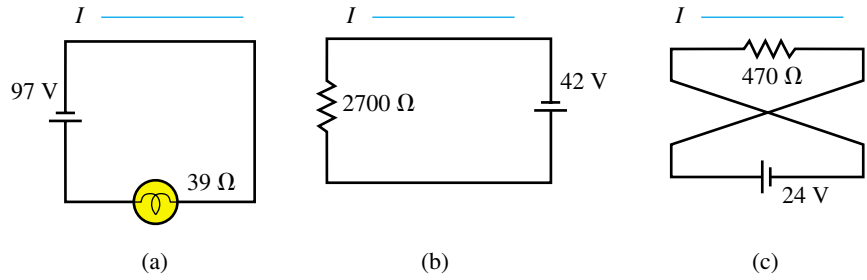

FIGURE 4-6
- For each circuit of Figure 4-6 determine the current, including its direction (i.e., the direction that the current arrow should point).